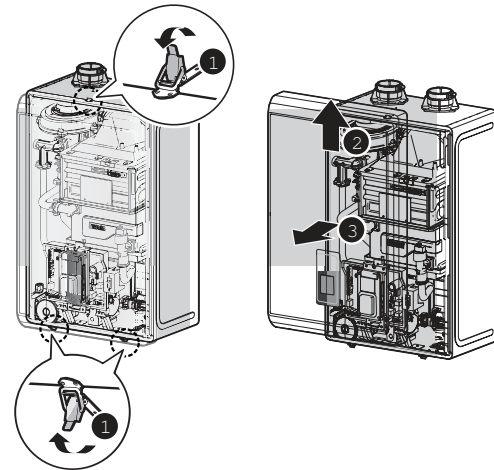

Figure 11-1 NCB-E Series Front cover
-  Undeasp the 3 buckles that fix the cover to the boiler, and then remove the cover by lifting it and pulling it outward. See Figure 11-1 for illustration of the front cover on the unit.